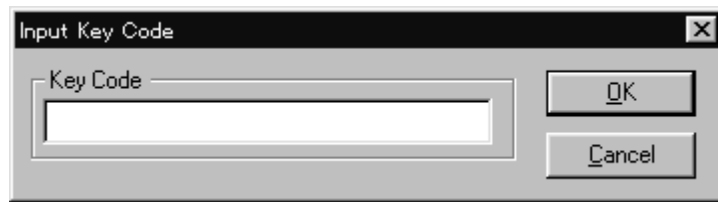

Figure 2.17 Input Key Code Panel
- The **Install...** button opens the Input Key Code panel (see Figure 2.17), which will prompt you for a password to complete the installation process.
3. To enable LUN Manager, select **Remote SCSI**, and then select the **Install...** button. The Input Key Code panel (see Figure 2.17) opens. Enter the license key (password) in the **Key Code** text box, and then select **OK**.
5. The Input Key Code panel (refer to Figure 2.17) opens. Enter the license key (password) in the Key Code text box, and then select **OK**.
4. The Input Key Code panel (see Figure 2.17) opens. Enter the license key (password) in the **Key Code** text box, and then select **OK**.
12. The Input Key Code panel (refer to Figure 2.17) opens. Enter the license key (password) in the **Key Code** text box, and then select **OK**.